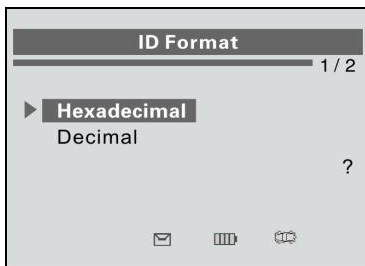

Figure 2.5
- 2) From **ID Format** screen, use the **UP/DOWN SCROLL** button to select the desired format of ID. (Figure 2.5)